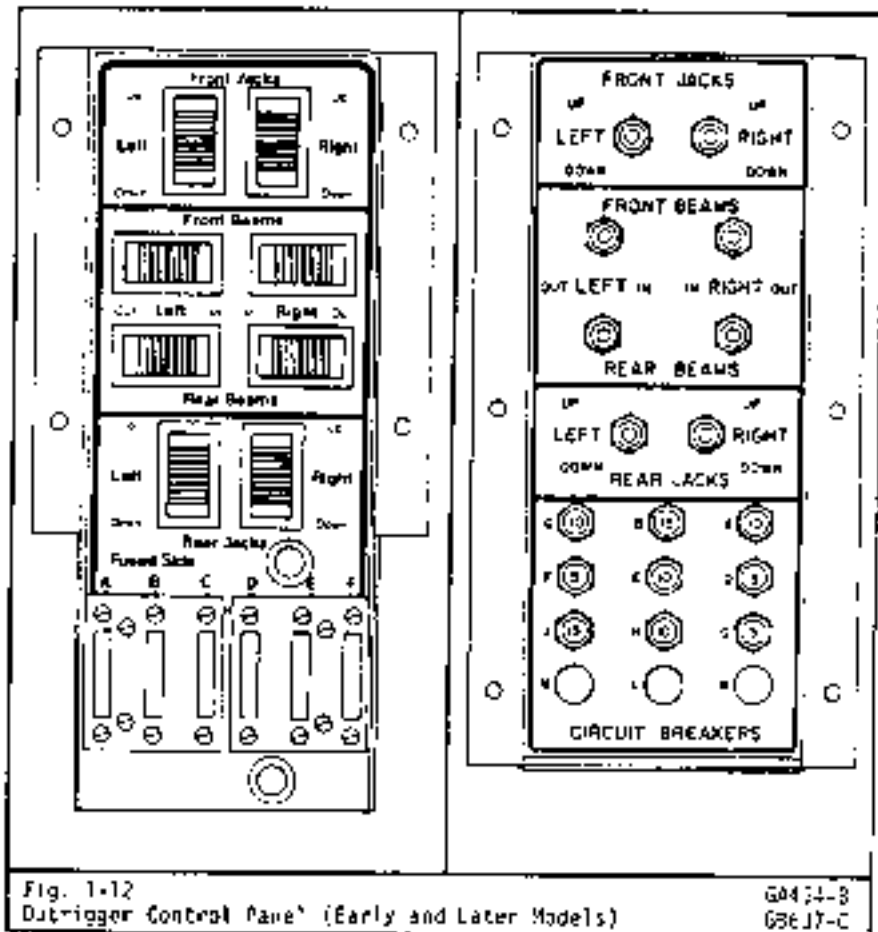

Fig. 1-12
**Note:** The layout of the switches may vary between early and later models, but their functions are unchanged. Refer to Fig. 1-12.